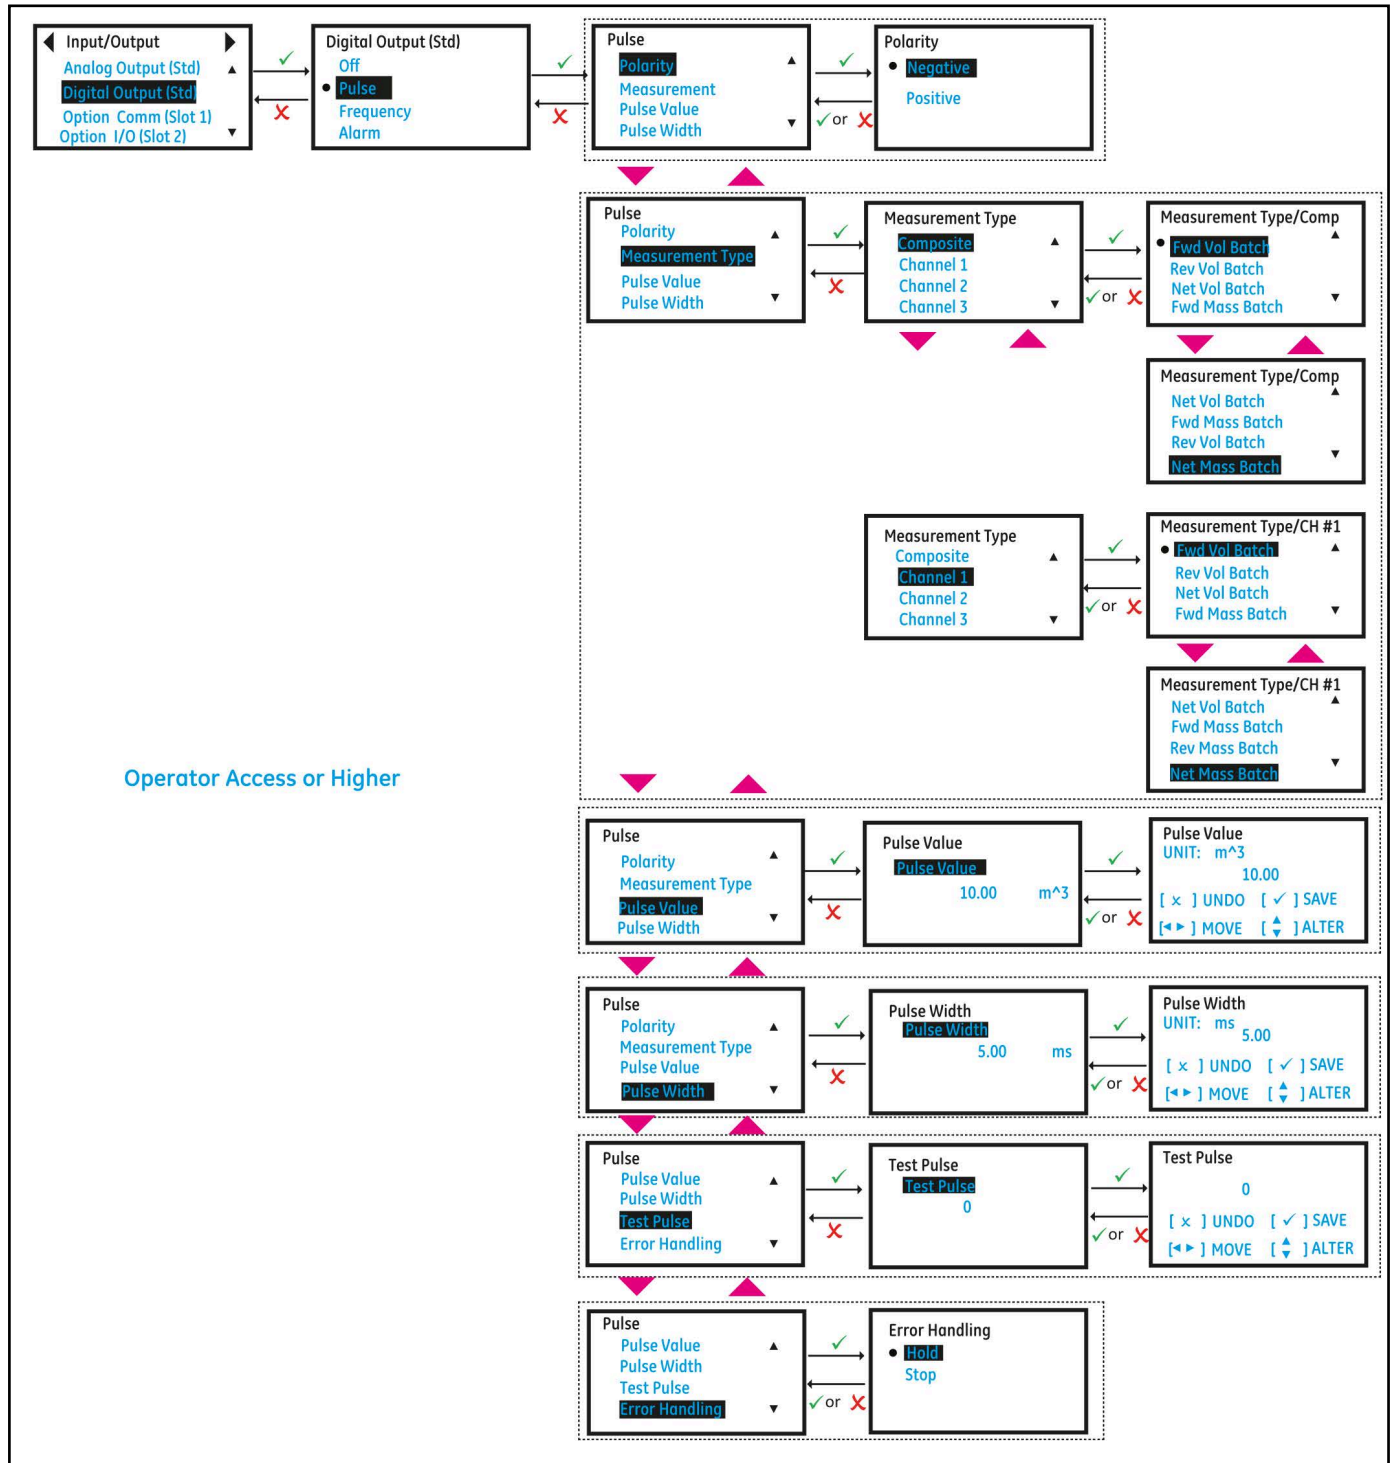

Figure 32: Setting up Pulse Output
2. Setup the **[Polarity]**, **[Measurement Type]**, **[Pulse Value]**, **[Pulse width]**, **[Test Pulse]** and **[Error Handling]** options to suit your needs. The *Figure 32* below, shows the available options. Also refer to the *Table 7* below to understand each option.